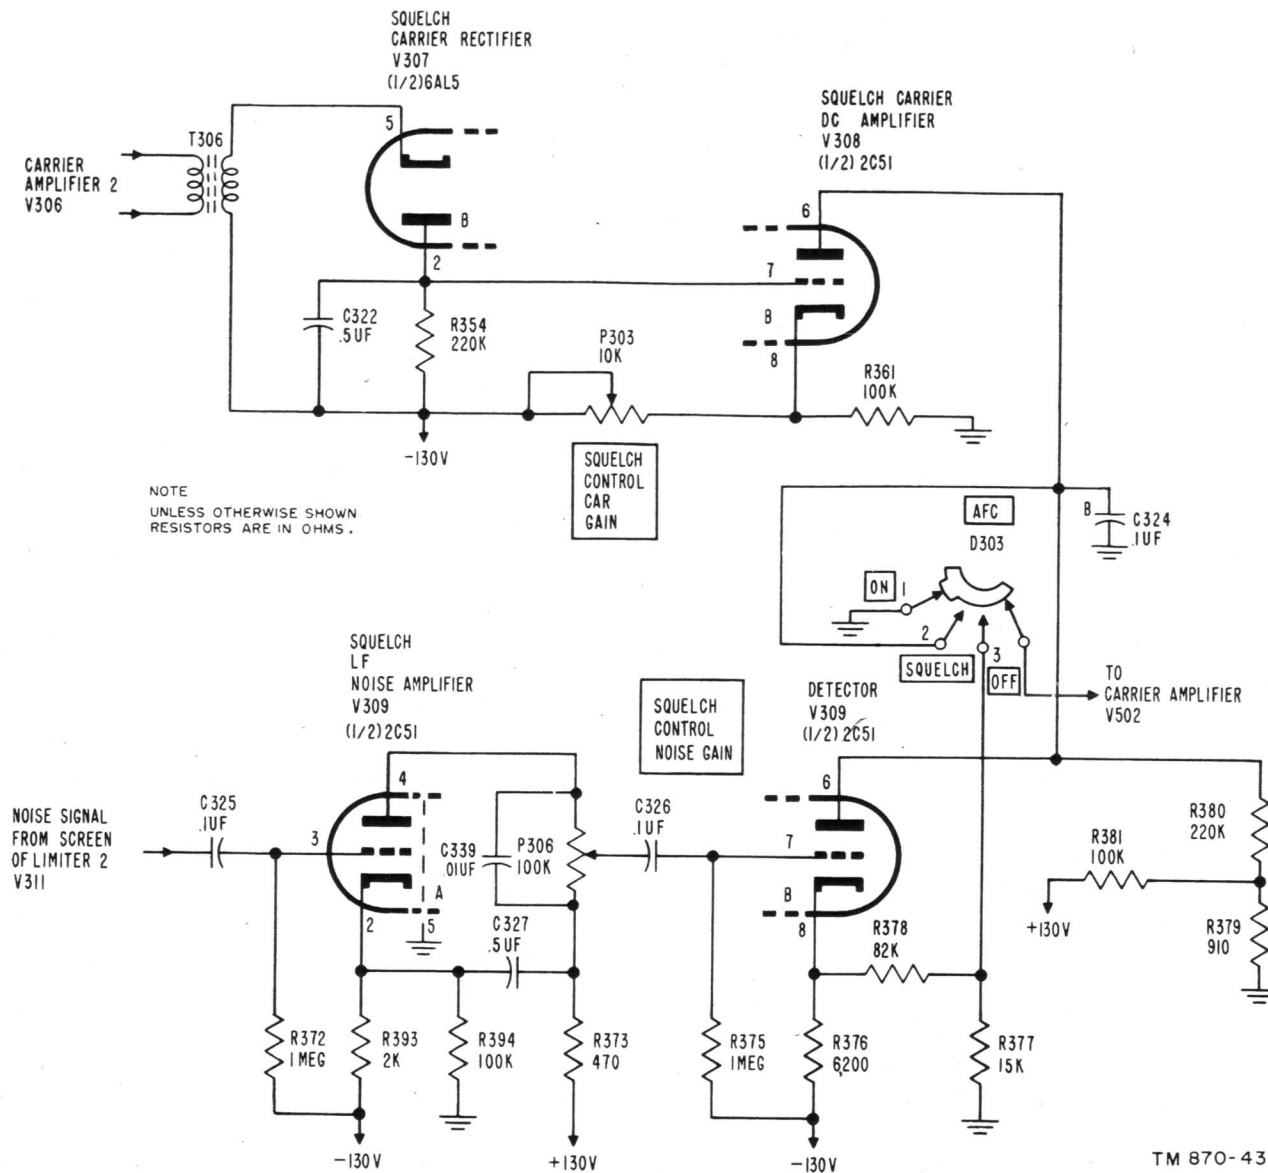
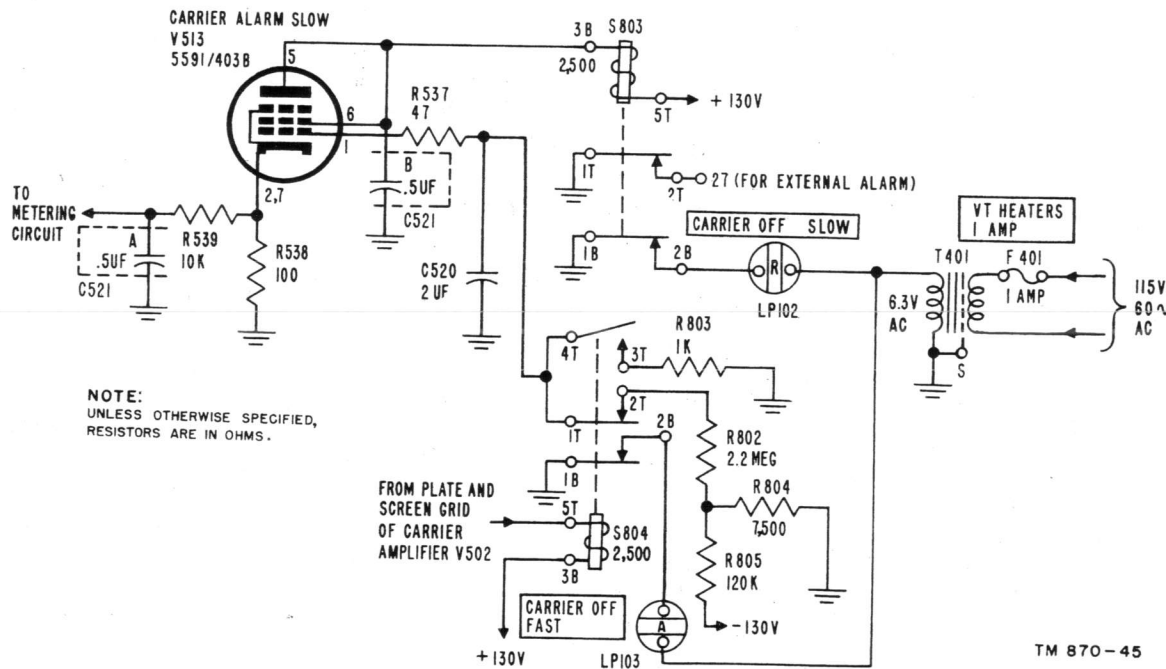

Figure 51. Squelch system, schematic diagram.
Figure 53. CARRIER OFF SLOW and CARRIER OFF FAST indicator lamp system, schematic diagram.
(fig. 51)
93. Carrier Off Slow and Carrier Off Fast Alarm Indicator Lamp System (fig. 53)
Cathode current that flows through the carrier off fast relay S804 to the +130-volt supply energizes the relay, and the relay contacts move to the opposite positions from those in figure 53. Energizing the relay extinguishes CARRIER OFF FAST amber lamp LP103 and grounds the grid 1 circuit of V513 through 1,000-ohm resistor R803, which causes this tube to conduct. Plate and screen currents of V513, which flow through carrier off slow relay S803 to the +130-volt supply, energize the relay, and the contacts move to the positions opposite to those in figure 53. SLOW red lamp LP102 then goes out. The amber and red lamps are always inoperative when the AFC switch is in the ON position.
d. In the SQUELCH position, AFC switch D303 permits the afc system to operate only when a high signal-to-noise ratio exists. The principal difference in circuit operation is that carrier amplifier V502 operates with a controlling bias from V309B (par. 90). If the carrier fades, the controlling bias developed across R380 (fig. 51) will bias V502 beyond cutoff. Plate and screen currents cease flowing, which de-energizes S804 and moves the contacts to the position shown in figure 53. Contacts 1B and 2B on S804 complete the ground connection for FAST amber lamp LP103 and cause it to light. Contacts 1T and 2T on S804 connect the 4.4-second time-constant network, R802 and C520, to -7.6 volts from the